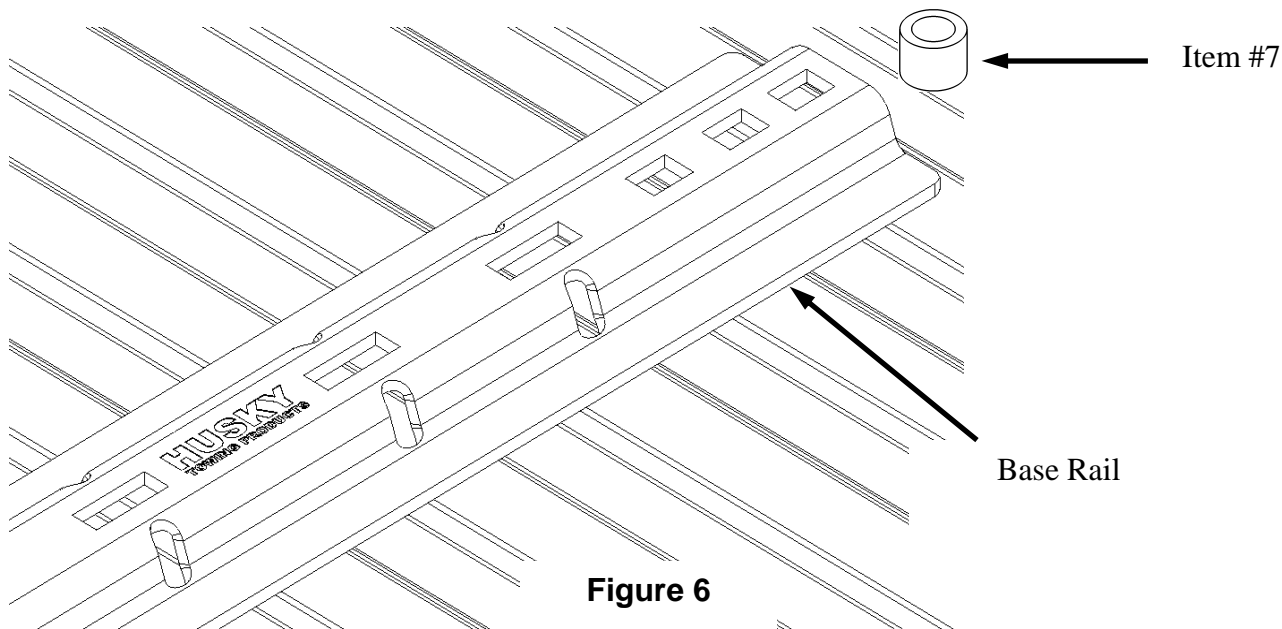

Figure 6
6. Reposition the base rails in the bed so that the square 5/8" hole in the end of each rail is lined up over the drilled holes. Place a 1" spacer tube (item #7) under the ends of each base rail, in line with the drilled holes performed in step 5. See Figure 6 below.